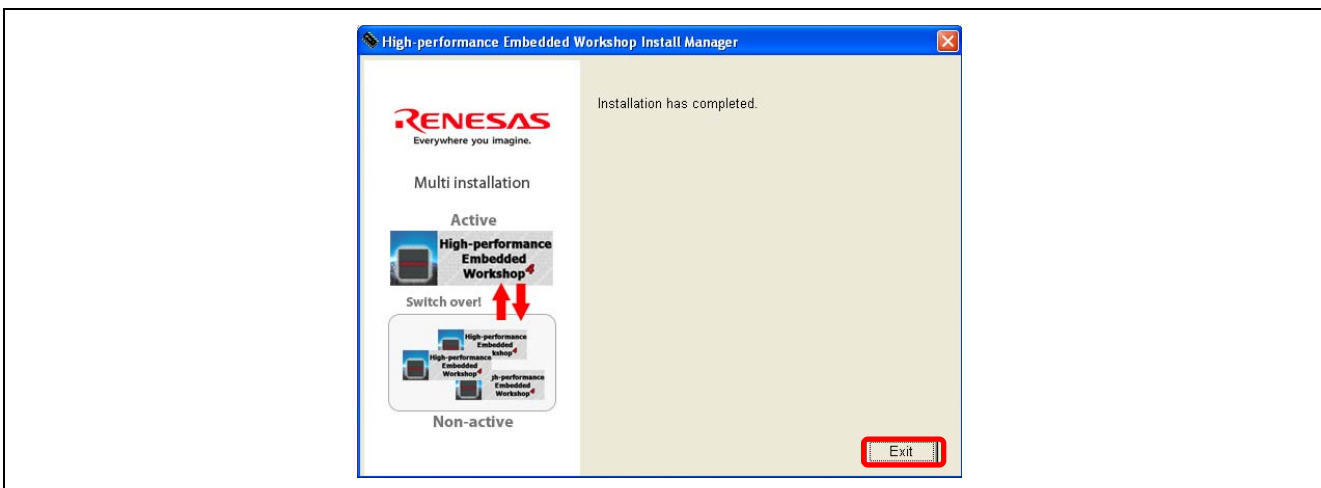

Figure 3.8 Installation Completed
(9) The dialog box shown in Figure 3.8 appears when the installation of all software products has been completed. Click on the [Exit] button to finish this process.